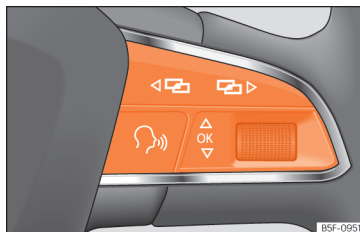

Fig. 81 Multifunction steering wheel: buttons for using the instrument panel menus.
hidden with the button **OK** of the multifunction steering wheel »» Fig. 81.
- If a message or vehicle symbol is displayed, press the button **OK** »» Fig. 81; if necessary, several times.
- Use the **<|** or **|>** »» Fig. 81 to switch between menus.
- To open the menu or the information displayed, press the button **OK** »» Fig. 81 or wait a few seconds until the menu or the information display opens automatically.
- In the menu displayed, turn the right thumb-wheel of the multifunction steering wheel »» Fig. 81 until the desired option of the menu is highlighted. The option appears framed.
- Press the button **OK** »» Fig. 81 to make the required modifications. A mark indicates that the system or function is activated.
Press the **<|** or **|>** »» Fig. 81 button.